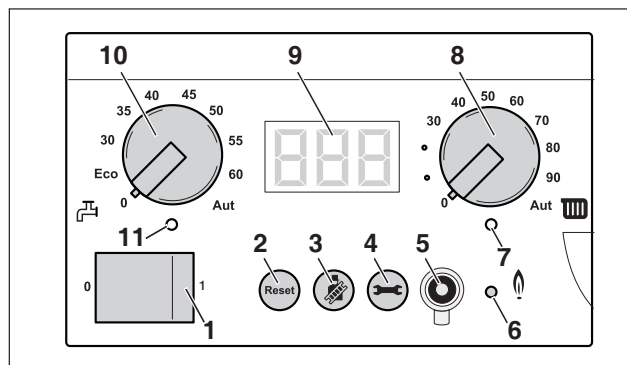

fig. 74 BC10
- Turn the maximum CH flow temperature dial (fig. 74, **item 8**) and DHW temperature dial (fig. 74, **item 10**) anticlockwise to the "0" position.